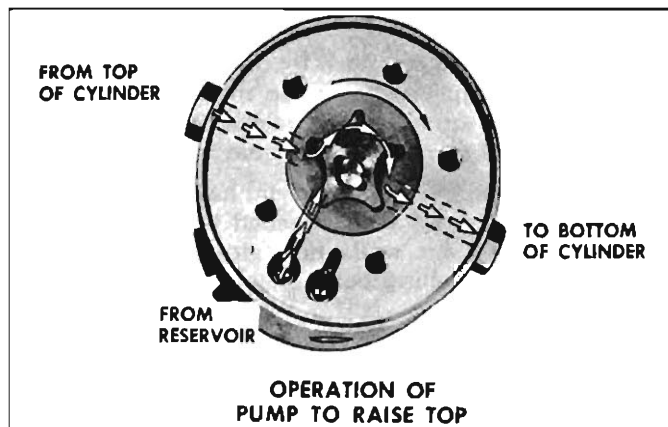

Fig. 68—Operation of Pump to Raise Top
1. Raising the Top. When the red motor lead is energized the motor drive shaft turns the rotors clockwise as indicated by the large arrow in Figure 68. The action of the pump rotors forces the fluid